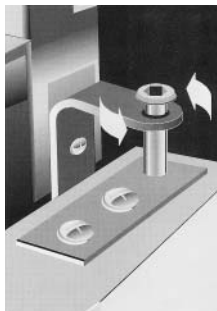

Fig 6.
- c) Remove the M5 hex screw from the top hinge bracket and push down on the spring loaded cartridge top (fig. 6).
The door is then free to be pulled clear of the top hinge bracket and then lifted clear of the bottom hinge bracket (fig. 6).